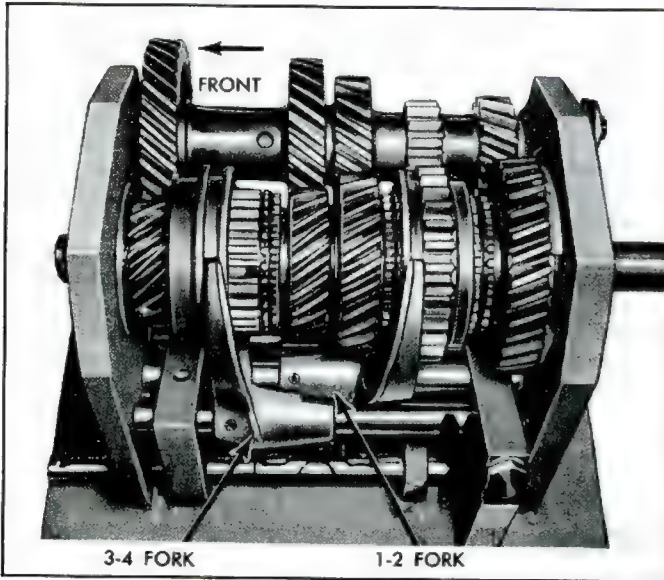

Fig. 7B-22—Shift Forks Installation
into the case. The interlock end (two opposite notches) of the shaft goes to the rear of the case. Engage 1-2 shift fork (fig. 7B-22) which is identified by the thru gate at the shift location, with the 1-2 synchronizer. Align the pin holes in the shaft and fork, then tap shaft rearward until it engages interlock and secure fork to shaft with roll pin.
19. Install detent ball, spring, gasket, and cap in 1-2 detent channel (fig. 7B-23). Cap used at this location has the longer shank.
20. Drop pin and remaining interlock into 3-4 detent channel, then push 3-4 shift fork shaft partially through hole in front of case. Engage 3-4 shift fork (fig. 7B-22) in 3-4 synchronizer, align pin hole in shift fork and shaft, then push shaft fully to rear of case until it engages interlock. Secure shift fork shaft with roll pin.